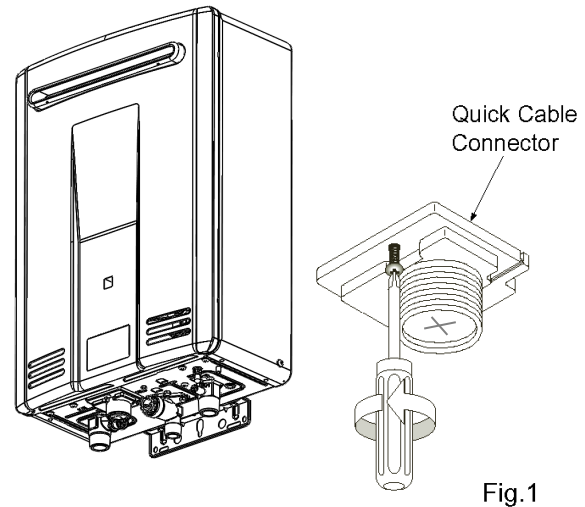

Fig.1
8. Remove the screw on the Quick Cable Connector. (Fig. 1)